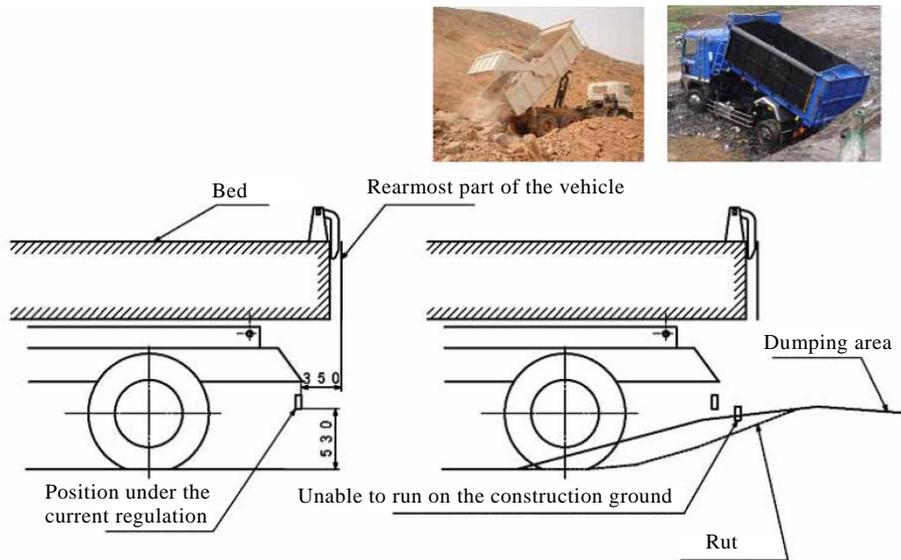

Figure 4 Unable to Run on Unpaved Roads in Construction Sites, Dump Yards, etc.
5. On unpaved roads (construction sites), the RUPD will come in contact with uphill slopes to work sites, ruts, etc., making it difficult for the vehicle to keep running. (Figure 4)